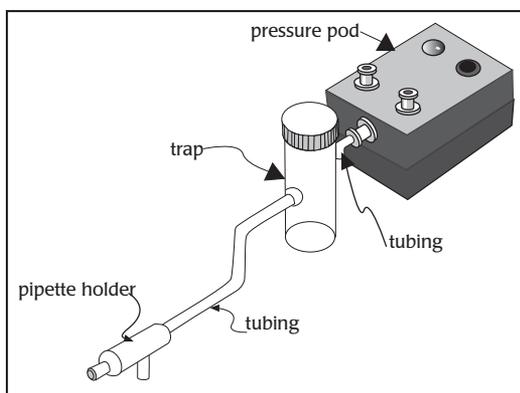

Fig. 5—The pipette assembly is attached to pressure pod.
- Referring to Fig. 5, connect the pipette holder to the fluid trap.